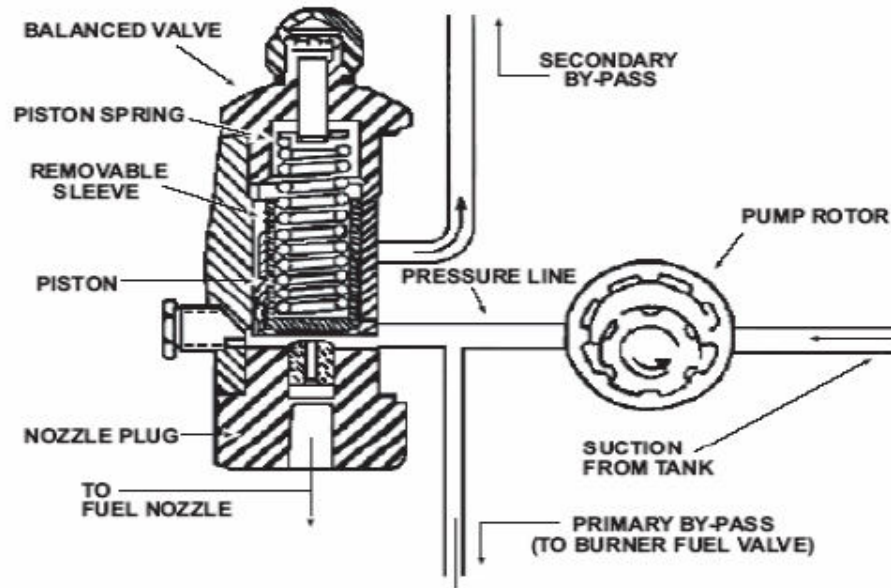

Figure 4-5 Schematic Diagram of Fuel Pump
4.20 The discharge air temperature gauge (see figure 4-4) is located in the control box. The temperature gauge is a dial type instrument which indicates the actual temperature of the discharge air in degrees Fahrenheit. The temperature gauge sensing element is mounted in the discharge air stream. (See figure 4-5)
- 4.22** A high temperature switch is installed in the outlet air stream to limit the maximum temperature that can be reached. (Maximum temperature is 250°F) (Figure4-5)
4.30 The fuel pump is mounted on a bracket to the left of the engine. The pump is belt driven by the gas engine. There are three outlet ports and two inlet ports (**see figure 4-5**). The primary by-pass will handle all the flow if the balanced valve is closed. The burner valve, which is in the primary by-pass line, is closed to obtain fuel flow to the nozzle. Closing the burner valve allows the pump to build up pressure to the point where the balancing valve opens allowing fuel flow in the nozzle fuel line. The pressure at which the balanced valve opens is determined by the compression of the piston spring, normally the spring is adjusted to 150 psi. The secondary by-pass supplies fuel to the engine and returns surplus back to the fuel tank. When the burner valve is open the pump cannot build up sufficient pressure to open the balanced valve and effect flow through the nozzle fuel line. Since the pump delivers fuel in excess of the maximum nozzle capacity maximum nozzle capacity there will always be flow through the secondary by-pass line when the burner valve is on.